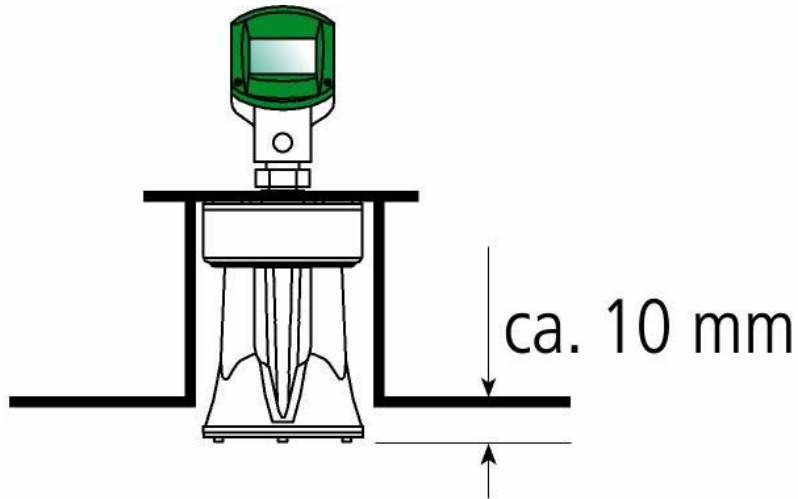
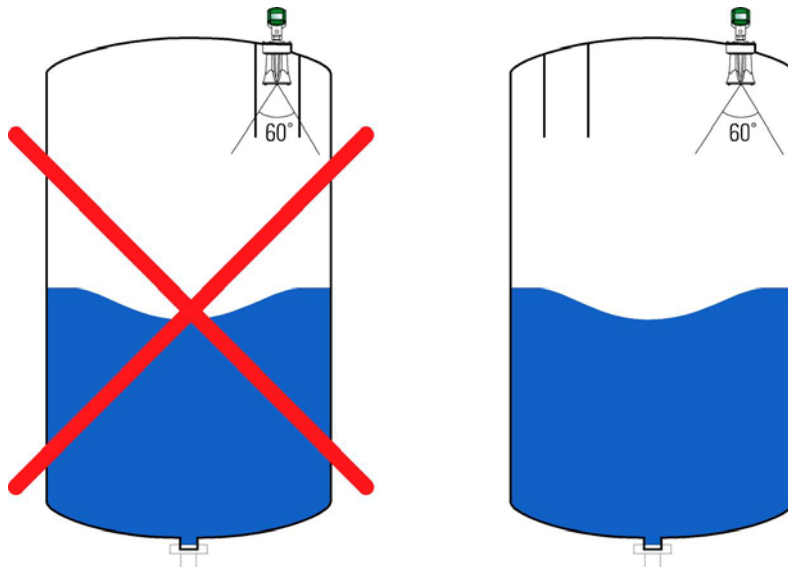

Figure 9 Antennas Location
Figure 10 Scanner Beam
- Ensure that the bottom of the scanner (antennas) protrudes at least 10 mm (0.4 inch) out of the socket, as shown in *Figure 9*. Ensure that no rails or frames interfere with the beam (opening angle) of the scanner, as shown in *Figure 10*. Interference can reduce the signal to noise ratio (SNR) and damage signals coming back to the scanner.